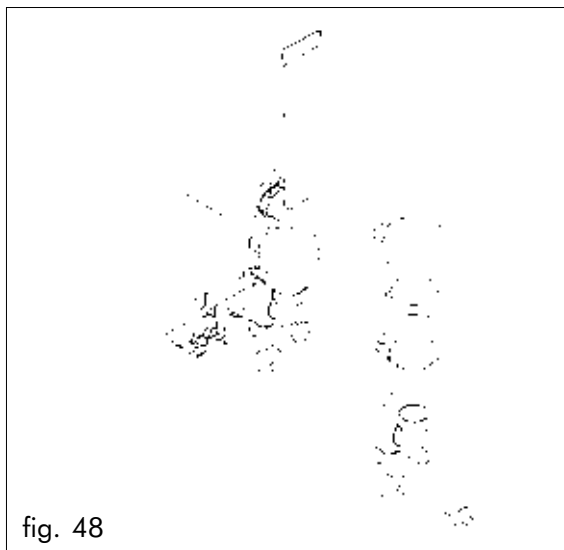

fig. 48
- Remove all the powder chutes, water funnels, mixing bowls and whippers and silicone tubes; also dip these parts in the prepared solution (fig.48).